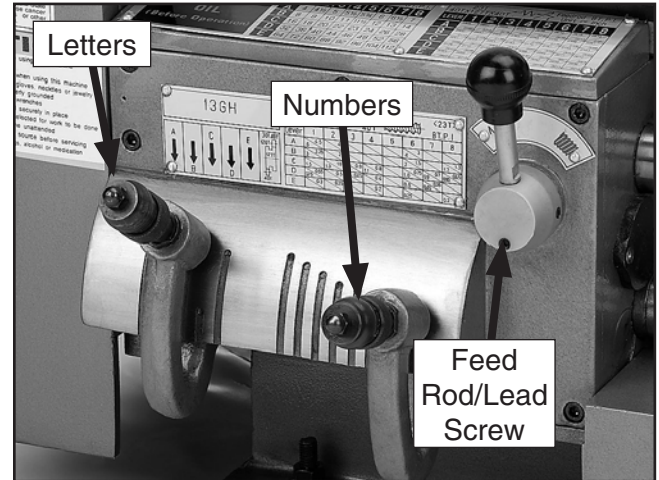

Figure 50. Feed rate control levers.
4. Change the feed rate using the levers shown in **Figure 50**. The left lever is for letters, and the right is for numbers.